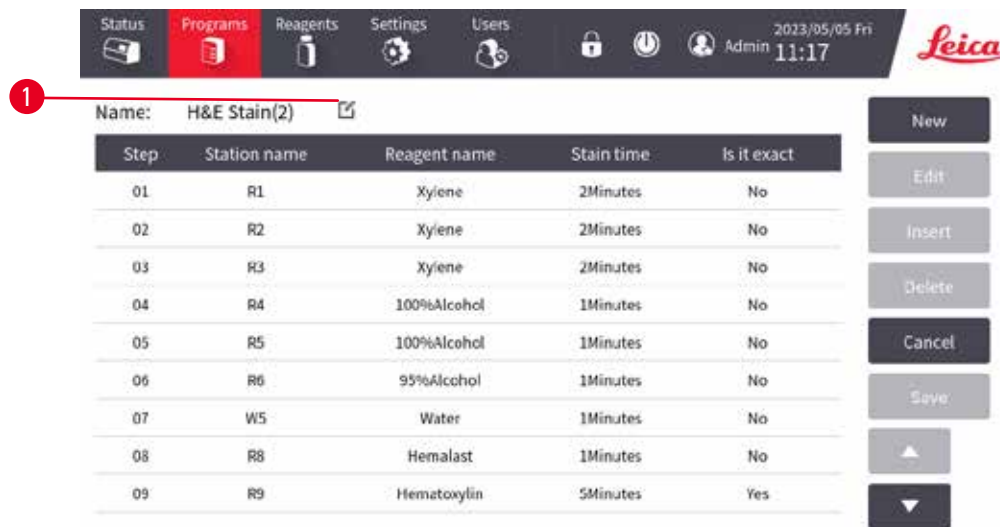

Fig. 19
1. From the edit program screen (→ Fig. 19), you now have the options of saving the edited program, leaving the program as it was before the changes were made, or continuing editing the program.